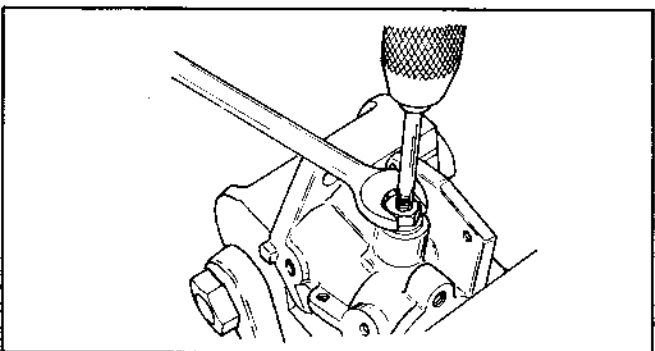

Figure 7-15. Removal of Inside Valve
- d. Turn nut (Fig. 7-15) clockwise to cause washer to tighten against carburetor body. Continue to turn nut (Fig. 7-15); this will pull the inside valve body out of the carburetor body. Clean carburetor body and blow out with compressed air to remove all chips.